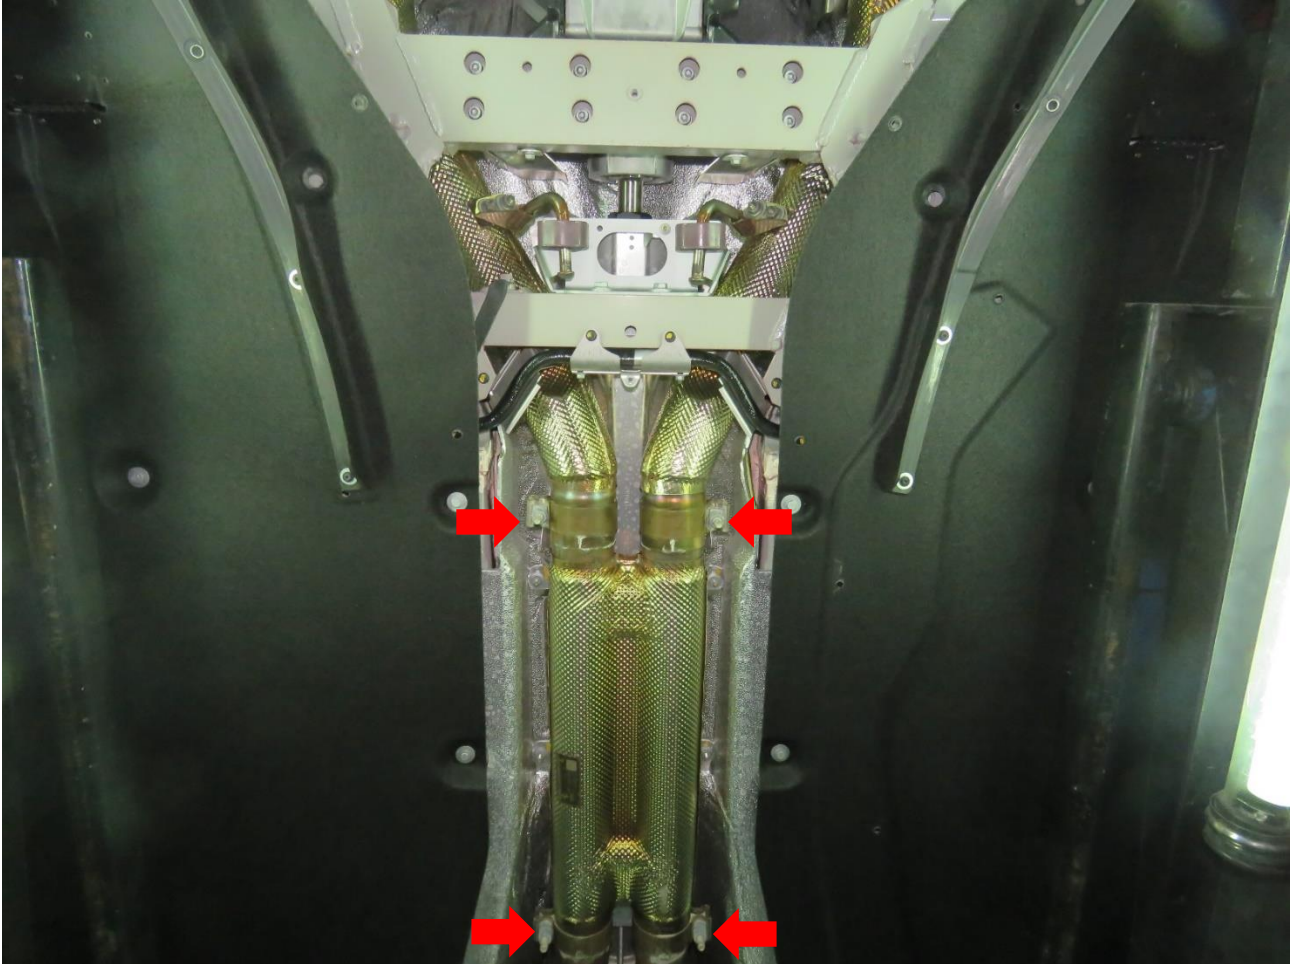

Fig. 7
7. Loosened the mid pipe clamps, then move muffler connect tube backward to unload the mid pipe. (Fig 7)